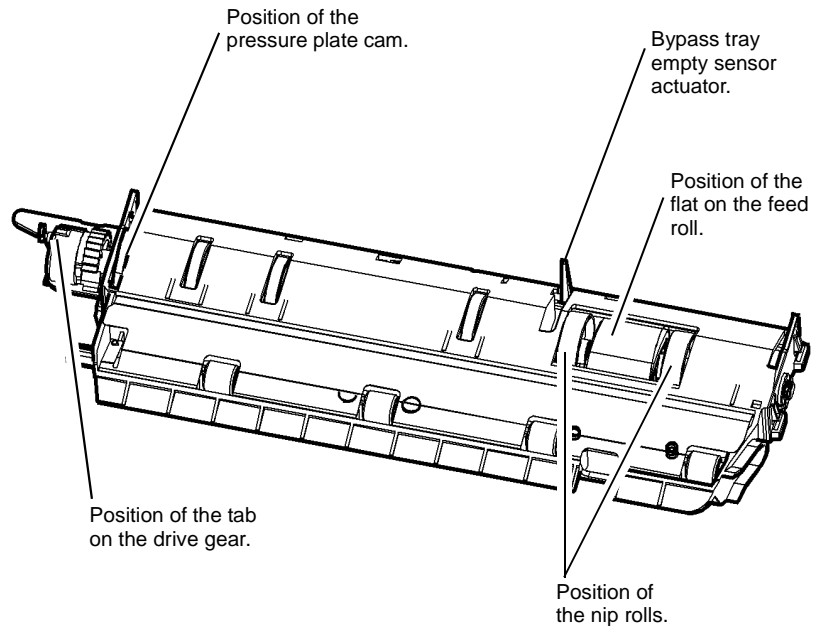

Figure 5 Component alignment
2. Before replacement of the feed head ensure that feed roll, pressure plate cam and drive gear are correctly aligned, Figure 5.
3. When the feed head is replaced, ensure that the bypass tray empty sensor actuator is positioned in the slot in the lift plate. Refer to Figure 5.